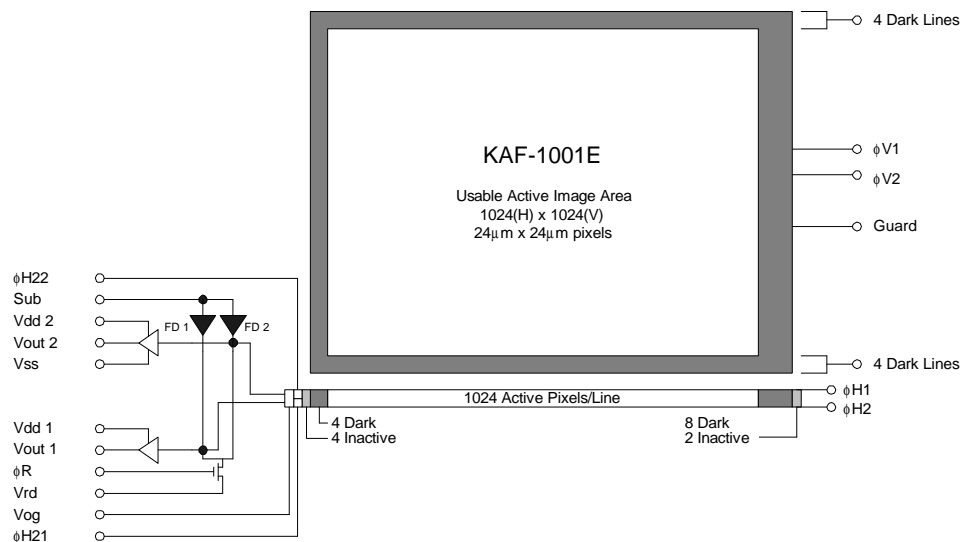

Figure 1 - Functional Block Diagram
Refer to the block diagram in Figure 1. The KAF-1001E consists of one vertical (parallel) CCD shift register, one horizontal (serial) CCD shift register and a selectable high or low gain output amplifier. Both registers incorporate true two-phase buried channel technology. The vertical register consists of  $24\mu\text{m} \times 24\mu\text{m}$  photo-capacitor sensing elements (pixels) which also serves as the transport mechanism. The pixels are arranged in a 1024(H) x 1024(V) array; an additional 12 columns (4 at the left and 8 at the right) and 8 rows (4 each at top and bottom) of non-imaging pixels are added as dark reference. Because there is no storage array, this device must be synchronized with strobe illumination or shuttered during readout.